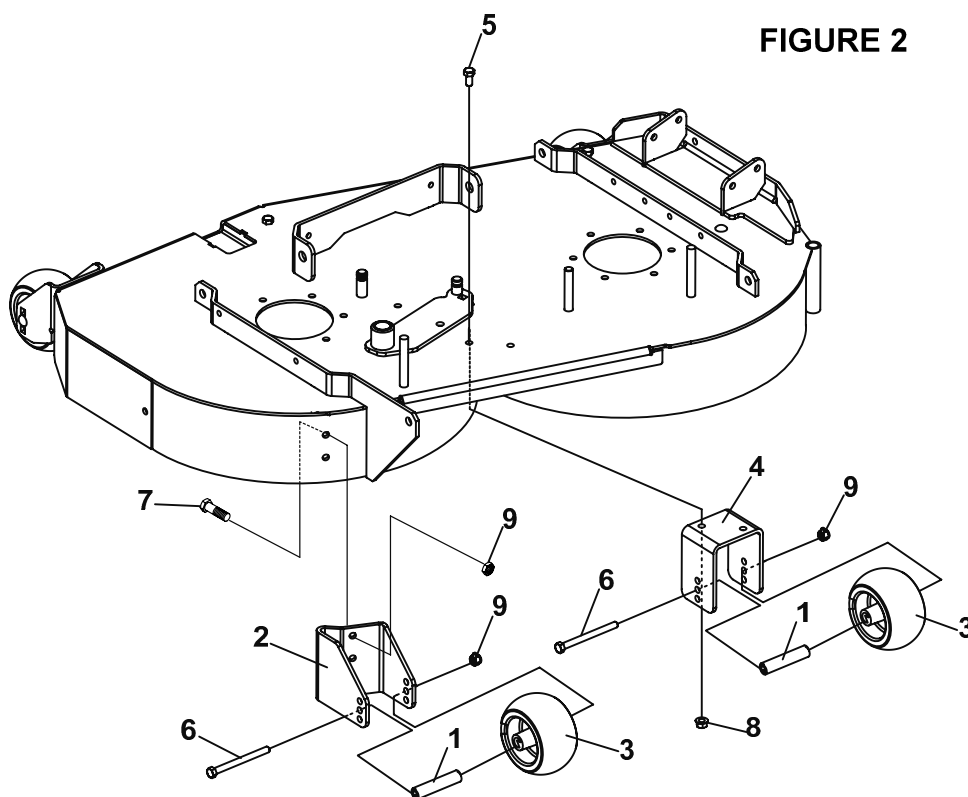

FIGURE 2
- 4) Install the middle roller bracket **4** using bolt **5** and nuts **8**, as shown in **Figure 2**.
- 5) Install the middle roller **3** using one bolt **6**, one spacer **1**, and one nut **9** as show in **Figure 2** to the desired height.
- 10) Install the middle roller using one bolt **6**, one spacer **1**, and one nut **9** as show in **Figure 2** to the desired height.